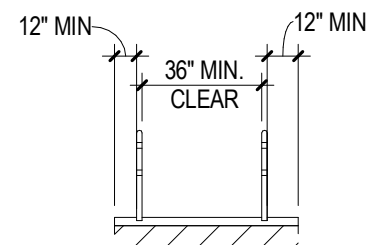

Figure 405.9.1 Extended floor or ground surface edge protection
C. The extended floor or ground surface of the ramp run or landing shall extend 12" minimum beyond the inside face of a handrail complying with 505. (see Figure 405.9.1)